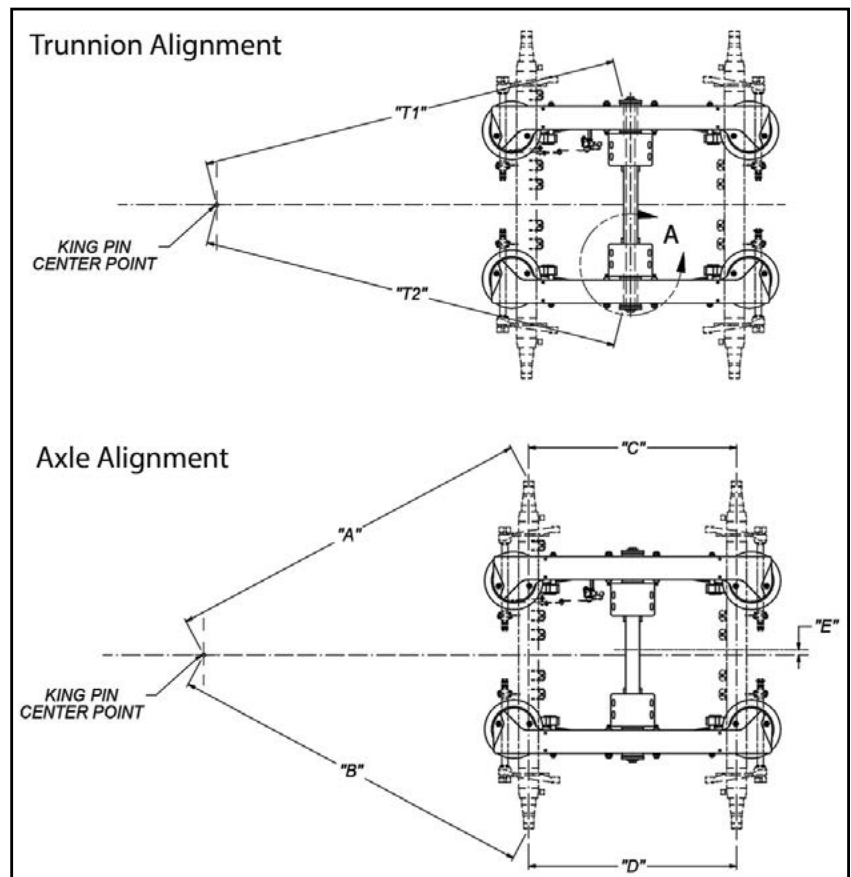

Figure 4. Kingpin measurements for trunnion and axle alignment.
2. Align the trunnion tube with the kingpin. Trunnion alignment dimensions "T1" and "T2" shown on the illustration must be equal (Figure 4).
5. Check that axle alignment dimensions "A" and "B" are equal to $\pm 1/8"$. Snug the four pivot fasteners and recheck the alignment (Figure 4).